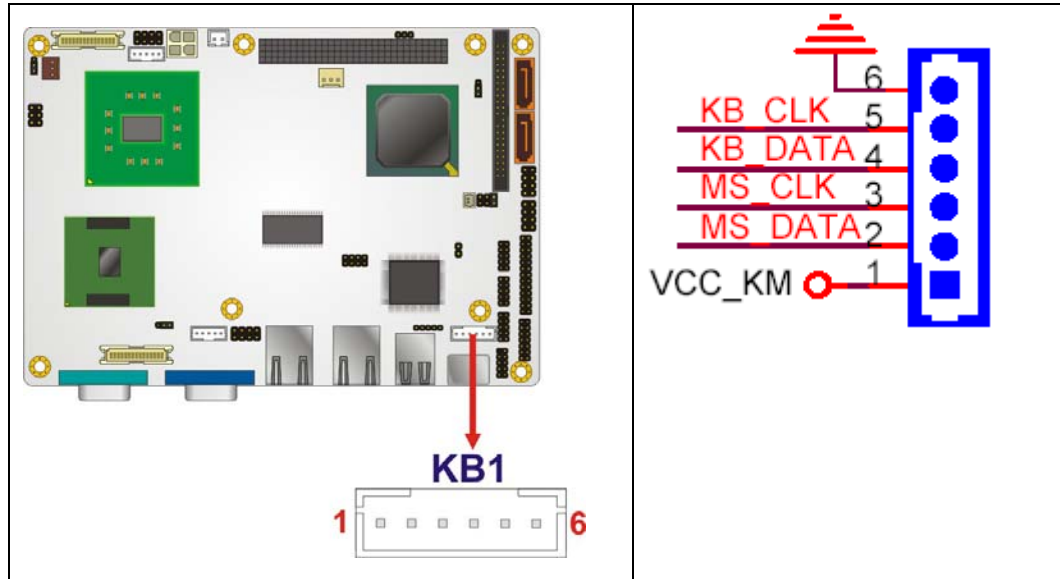

Figure 3-14: Keyboard/Mouse Connector Location
- CN Location:** See **Figure 3-14**